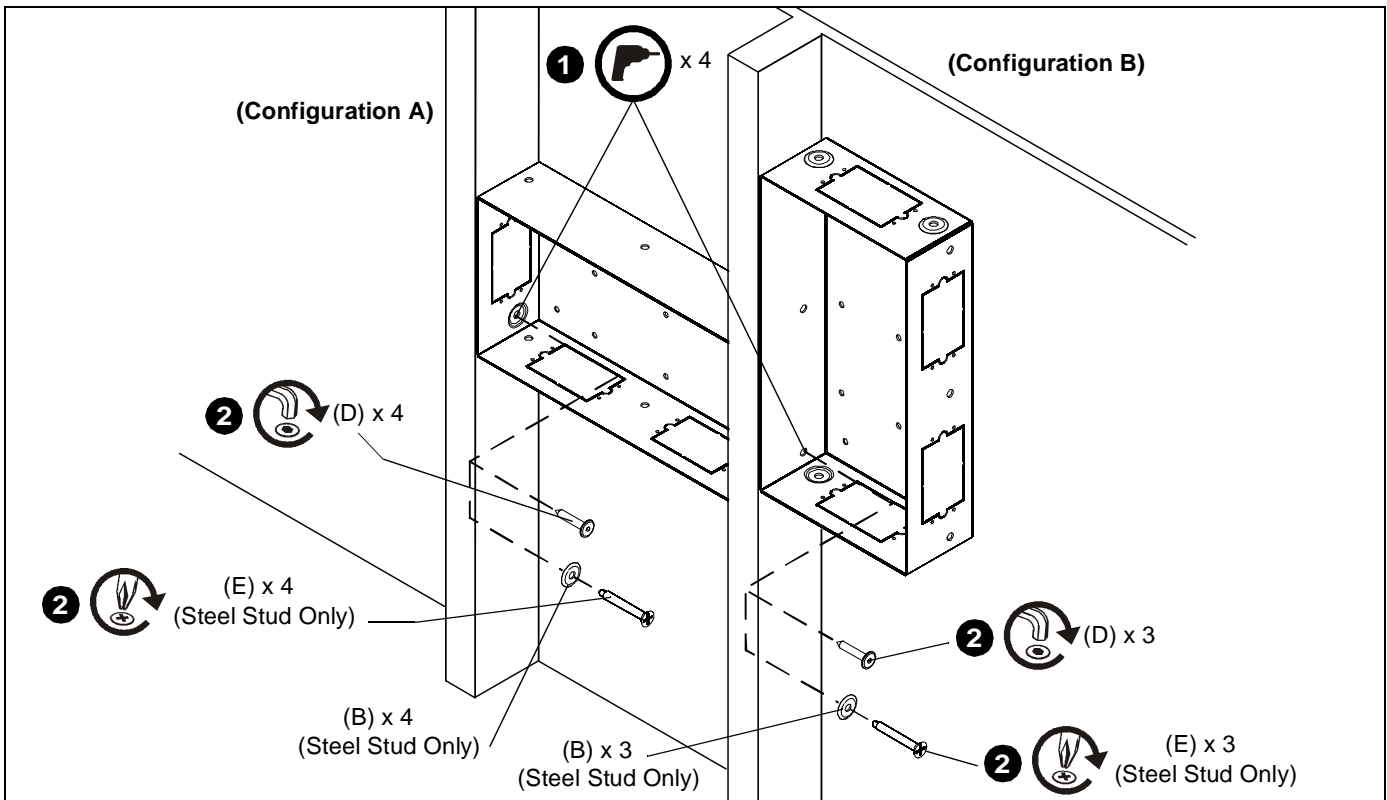

Figure 4
1. Drill four 3/16" dia. pilot holes in studs at mounting holes. (See Figure 4)
2. Install four M7 x 40mm Allen head connector screws (D) into pilot holes using an M4 Allen head drill bit (F). (See Figure 4)
2. Install four 1/4" countersunk finishing washers (B) and four 1/4" x 2" Phillips flat head self drilling screws (E) into pilot holes. (See Figure 4)